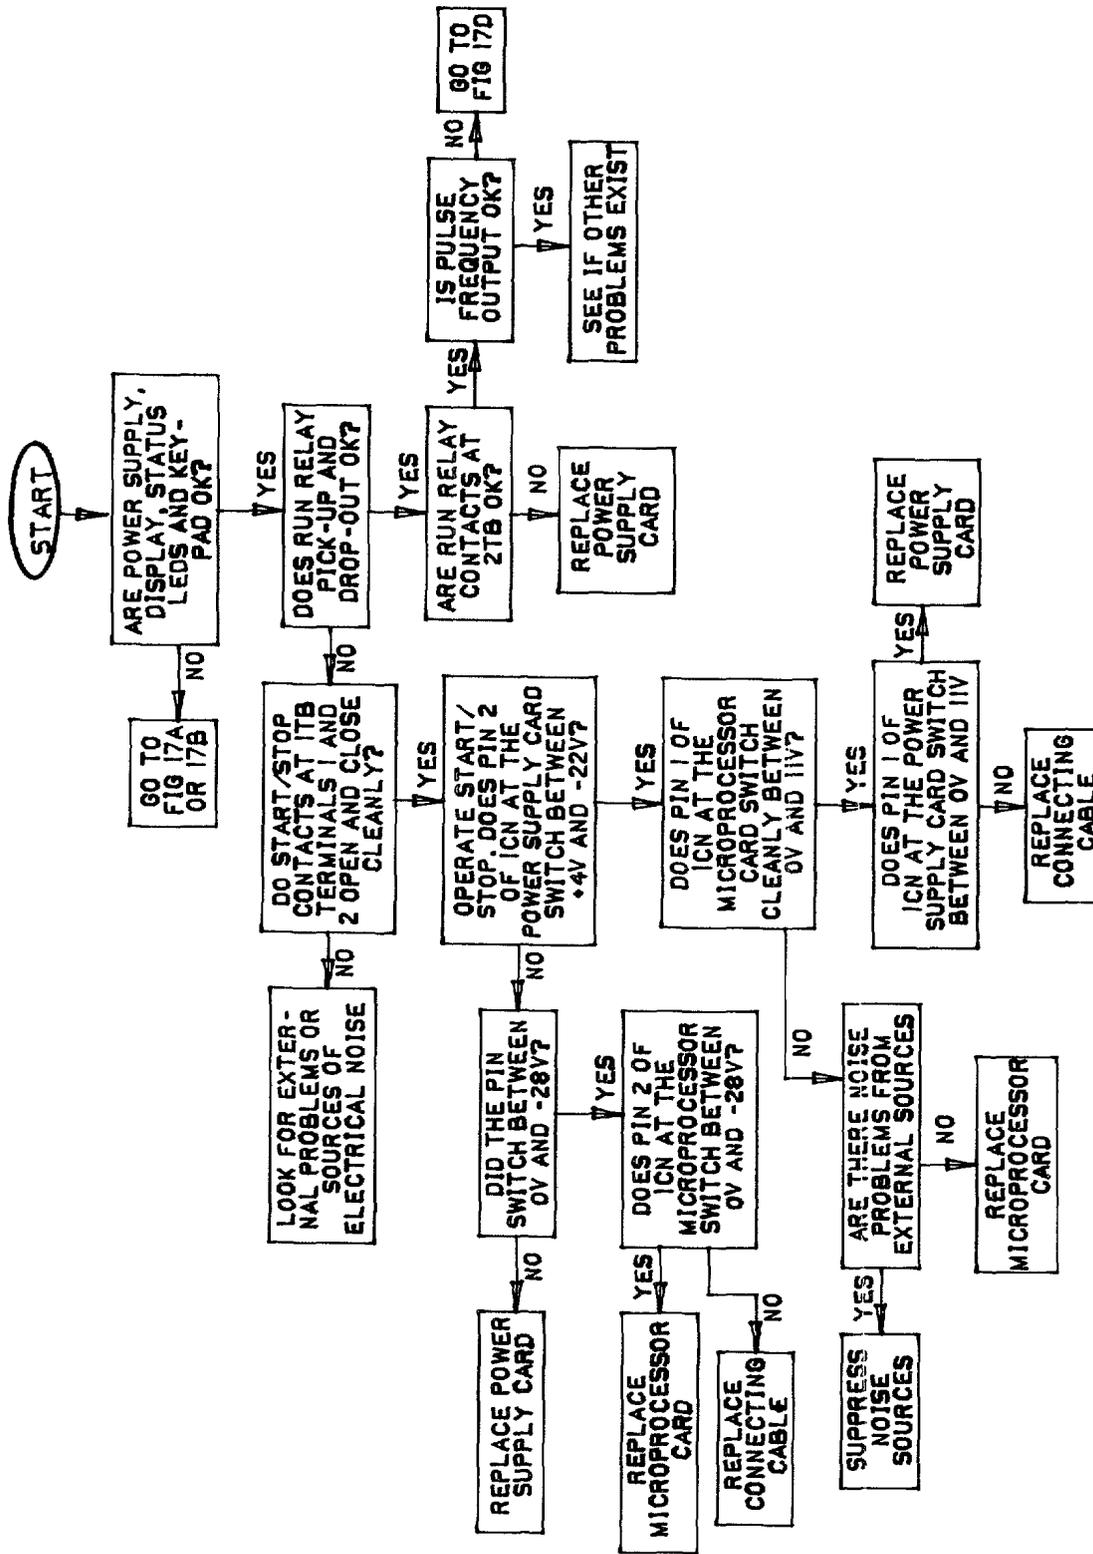

FIGURE 17c
3. START/STOP or RUN problems: (Fig. 17c)